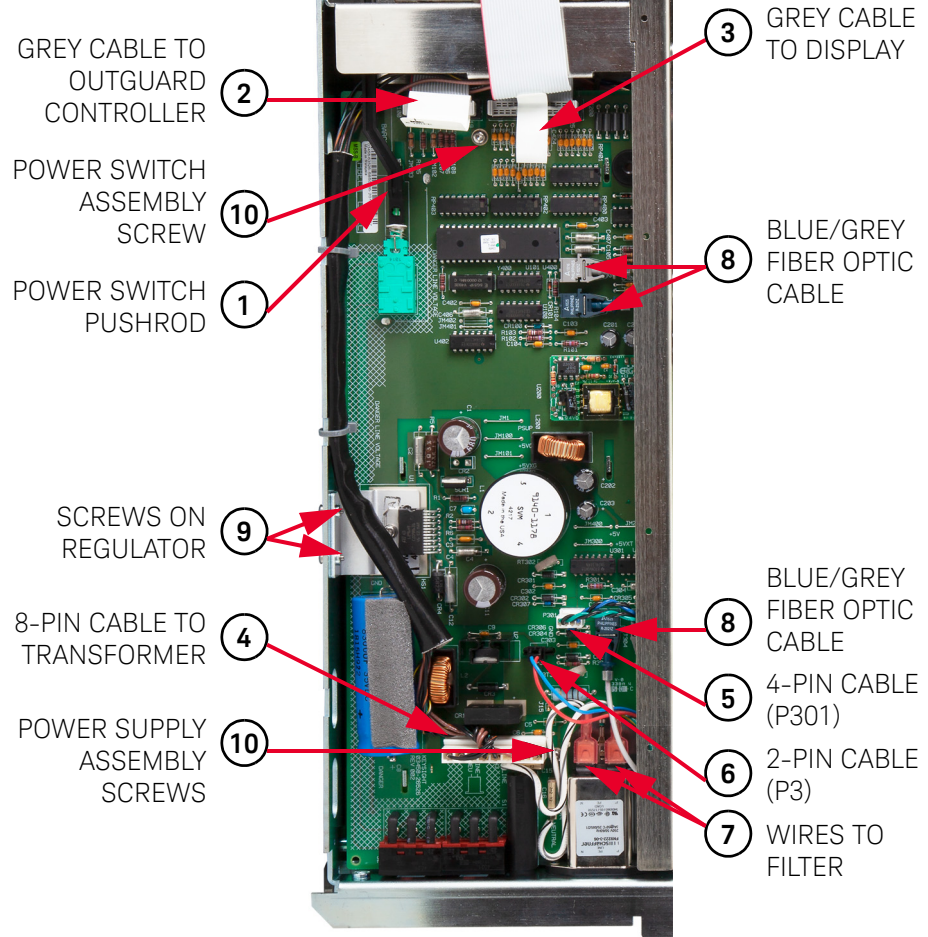
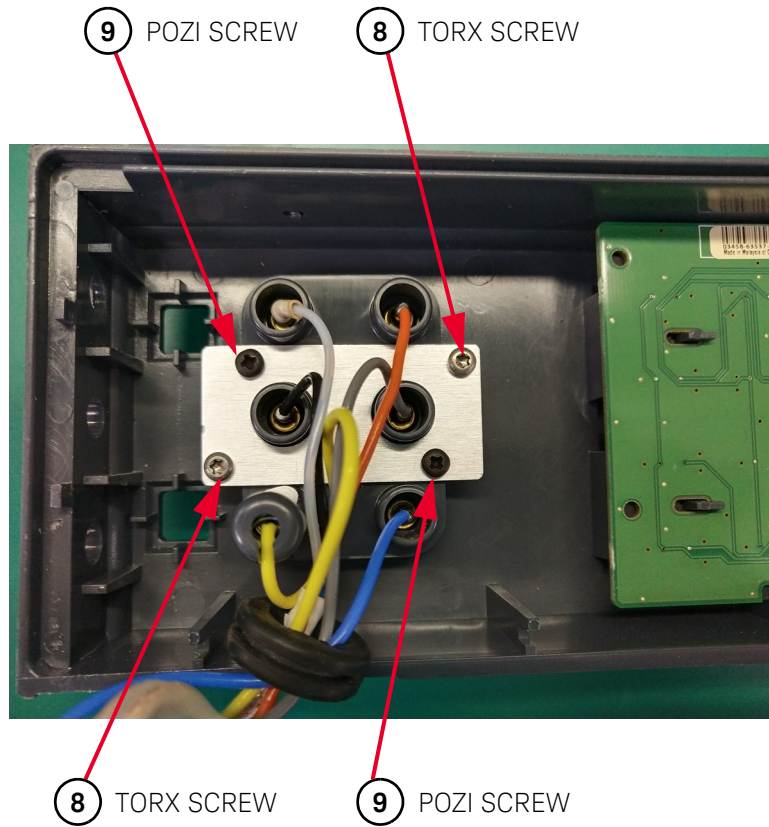

Figure 3-15 Outguard power supply assembly removal/installation
Figure 3-19 Remove/Install screws on front terminals
Refer to Figure 3-15 for the following procedures.
The label numbers in Figure 3-15 and Figure 3-19 show the order of assembly removal. Use reverse order for installation.
- 11** Refer to Figure 3-19. Use the #TX10 Torx driver to remove the two Torx screws from the front terminals. Then use a #1 Pozidriv screwdriver to remove the two Pozidriv screws from the front terminals. This removes the front terminals from the Front Panel assembly.
- 6 Refer to Figure 3-19. Use the #TX10 Torx driver to install the two Torx screws on the front terminals. Then use a #1 Pozidriv screwdriver to install the two Pozidriv screws on the front terminals.